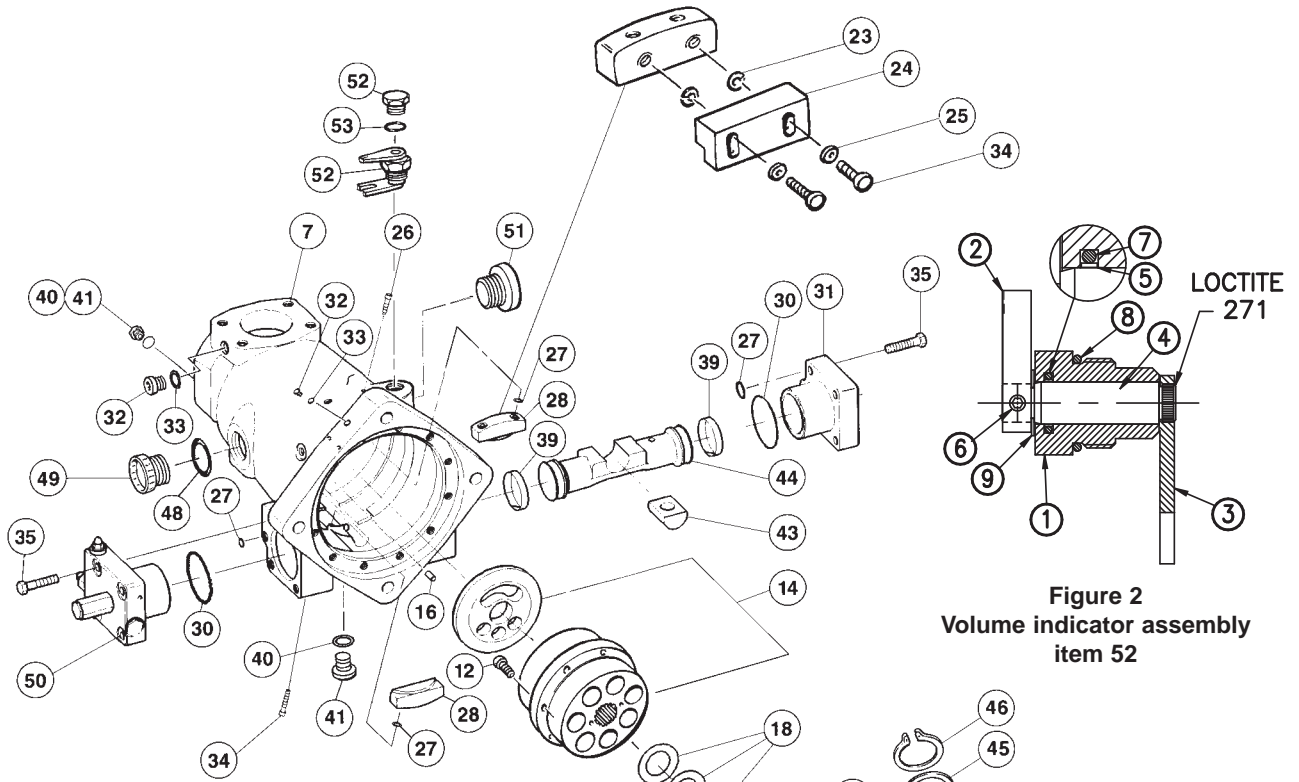

Figure 2
1. Remove plug (49) and drain oil from pump. Position pump with shaft up.
2. Wind maximum volume screw ref. see item (50), CW so that piston (44) bottoms out. This positions the cam at approximately zero stroke allowing removal of the drive shaft. *Reference item 1 page 27.*
3. Remove socket head cap screws (9). If disassembling PQ Control version, remove tubing and pass thru fitting (56).
4. Remove cradle assembly (6) from the housing. The M-10 threaded hole in end of the shaft is provided for lifting this assembly.
5. Remove snap ring (4).
6. Remove screws (21) and (47) to remove cam bearings (29) and (42) as applicable.
7. Remove shaft (1), bearing, and seal retainer. Support flat face of the rocker cradle and press end of shaft opposite the bearing end.
9. Remove retaining ring (20).
11. If pump contains a volume indicator assembly (52): *Refer to Figure 2:* Remove indicator pointer (2), retaining ring (9) and pivot nut (1) from pump housing. Remove pivot shaft and fork assembly (3) and (4) through the hole.